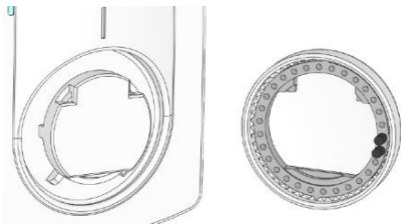

Fig. 1
4. Remove the internal wheel from the button. (in grey Figure 1)